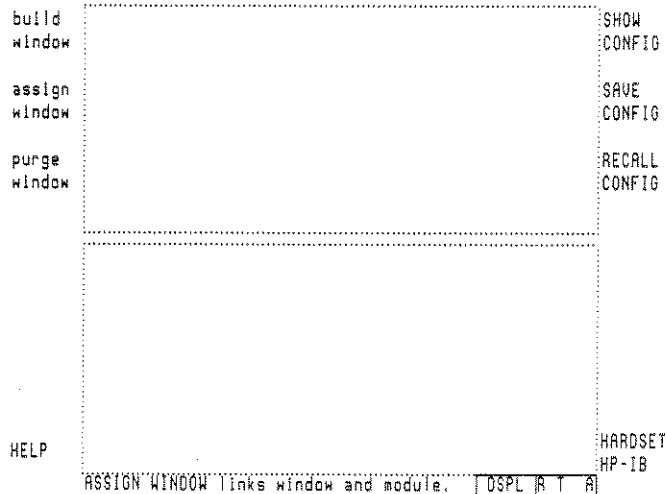

Fig. 20
2. Build two windows as in the *build window* example, leaving the screen with two blank, unassigned windows as in Figure 20. The lower window should be #1 and the upper window should be #2.